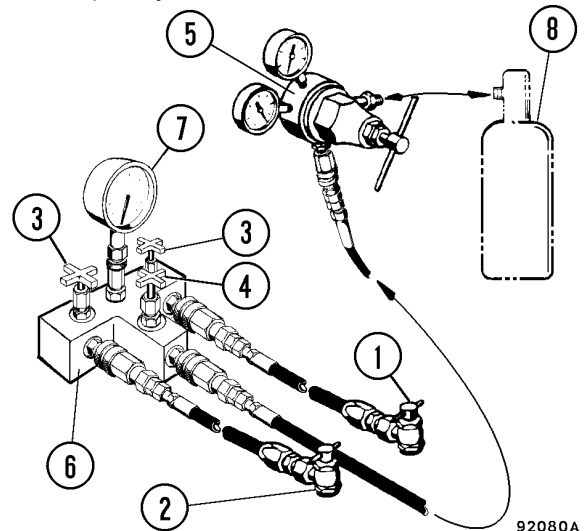

FIGURE 4-1. HYDRAIR® CHARGING KIT
Assemble service kit as shown in Figure 4-1 and attach to container of pure dry nitrogen (8).
2. Turn "T" handles (1, Figure 4-1) of adapters (2) completely counterclockwise.